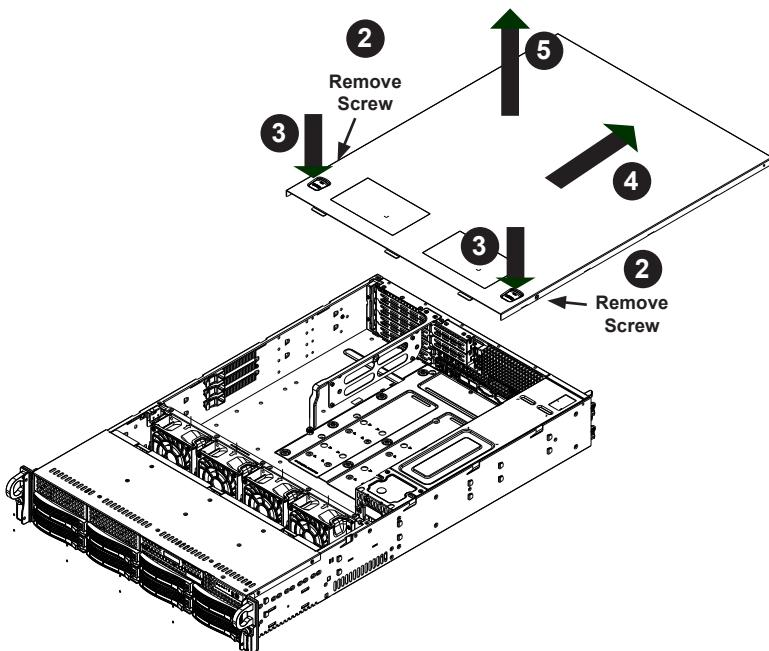

Figure 6-2. Accessing the Inside of the System
6. To remove the system from the rack completely, press the locking tabs in the chassis rails (push the right-side tab down and the left-side tab up) to continue to pull the system out past the locked position. See Figure 6-2